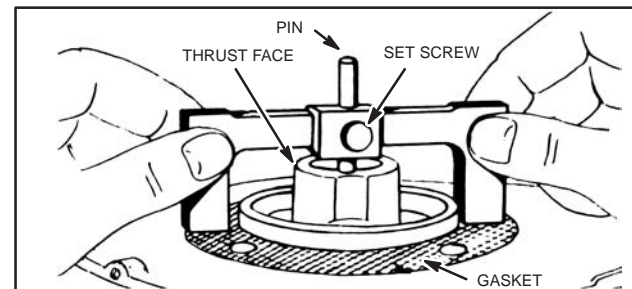

Fig. 896 – CHECKING END PLAY
Lay magneto with thrust face up. Put a standard .015" magneto gasket in place. Place end play gauge on magneto with long legs of crossbar against gasket on machined mounting face of magneto, Fig. 896. If end play is correct, the gauge will touch all three (3) points. If there is not enough end play, the pin will touch thrust face and there will be clearance at the leg of the crossbar. If end play is too great, the clearance will be at the pin.